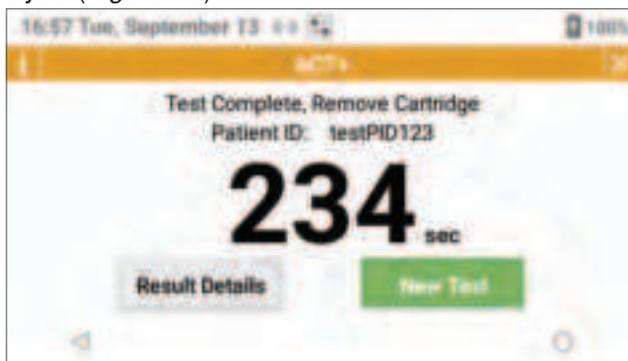

Figure 48: Patient Test Result
- 10 The test result is displayed (Figure 48).
NOTE: The test result will remain on the screen until a new test is performed or the user selects  (Figure 48).
12 From the patient test result screen (Figure 48), the user can do any of the following: